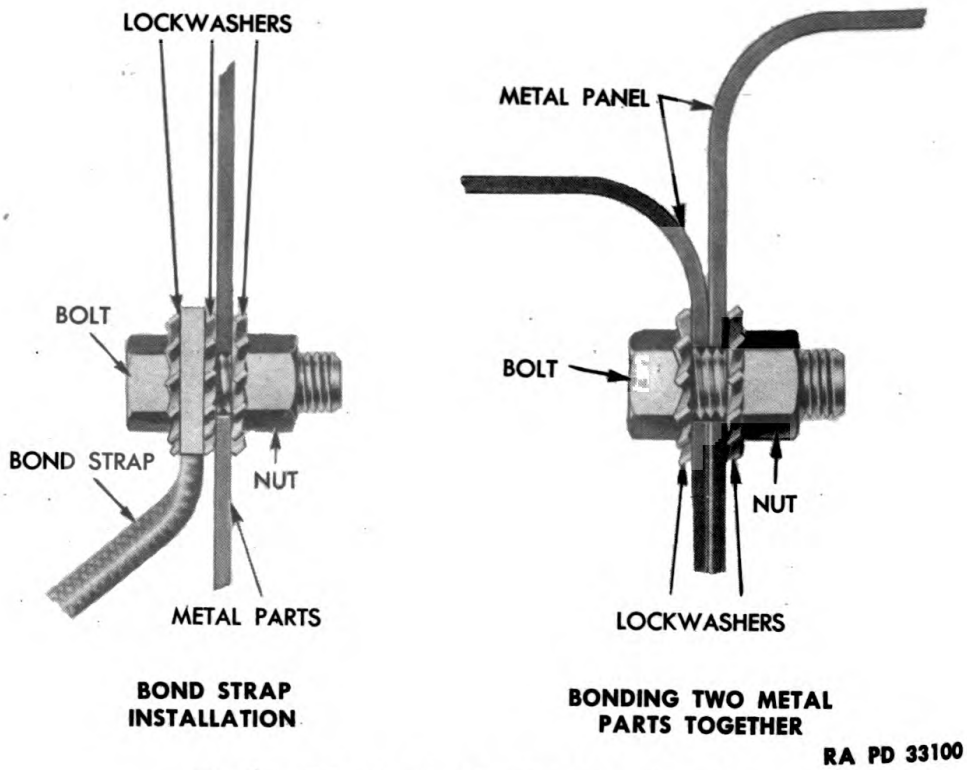

Figure 69—Methods Used in Bonding
(5) **BONDING.** Bonding is accomplished by the use of 13 flexible metal straps, a metal screen welded at the hood side panel louvers, and numerous plated bolts, nuts, and toothed lock washers. The purpose of bonding is to keep all metal parts at a common potential. The method used to install the flexible metal straps is illustrated in figure 69. The bond straps are located at the following points: